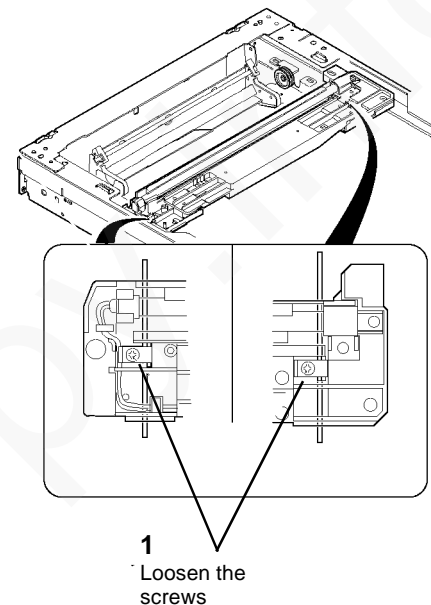

Figure 3 Loosening the Exposure Lamp Carriage Screws
2. (Figure 3): Loosen the screws on the Exposure Lamp Carriage.